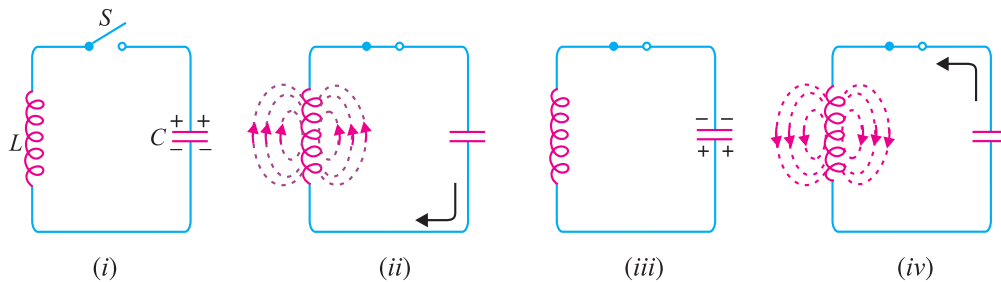

Fig. 14.2
A simple oscillatory circuit consists of a capacitor (C) and inductance coil (L) in parallel as shown in Fig. 14.2. This electrical system can produce electrical oscillations of frequency determined by the values of L and C . To understand how this comes about, suppose the capacitor is charged from a d.c. source with a polarity as shown in Fig. 14.2 (i).
(i) In the position shown in Fig. 14.2 (i), the upper plate of capacitor has deficit of electrons and the lower plate has excess of electrons. Therefore, there is a voltage across the capacitor and the capacitor has electrostatic energy.
(ii) When switch S is closed as shown in Fig. 14.2 (ii), the capacitor will discharge through inductance and the electron flow will be in the direction indicated by the arrow. This current flow sets up magnetic field around the coil. Due to the inductive effect, the current builds up slowly towards a maximum value. The circuit current will be maximum when the capacitor is fully discharged. At this instant, electrostatic energy is zero but because electron motion is greatest (*i.e.* maximum current), the magnetic field energy around the coil is maximum. This is shown in Fig. 14.2 (ii). Obviously, the electrostatic energy across the capacitor is completely converted into magnetic field energy around the coil.
(iii) Once the capacitor is discharged, the magnetic field will begin to collapse and produce a counter e.m.f. According to Lenz's law, the counter e.m.f. will keep the current flowing in the same direction. The result is that the capacitor is now charged with opposite polarity, making upper plate of capacitor negative and lower plate positive as shown in Fig. 14.2 (iii).
(iv) After the collapsing field has recharged the capacitor, the capacitor now begins to discharge; current now flowing in the opposite direction. Fig. 14.2 (iv) shows capacitor fully discharged and maximum current flowing.
As discussed before, a tank circuit produces damped oscillations. However, in practice, we need continuous undamped oscillations for the successful operation of electronics equipment. In order to make the oscillations in the tank circuit undamped, it is necessary to supply correct amount of energy to the tank circuit at the proper time intervals to meet the losses. Thus referring back to Fig. 14.2, any energy which would be applied to the circuit must have a polarity conforming to the existing polarity at the instant of application of energy. If the applied energy is of opposite polarity, it would oppose the energy in the tank circuit, causing stoppage of oscillations. Therefore, in order to make the oscillations in the tank circuit undamped, the following conditions must be fulfilled :